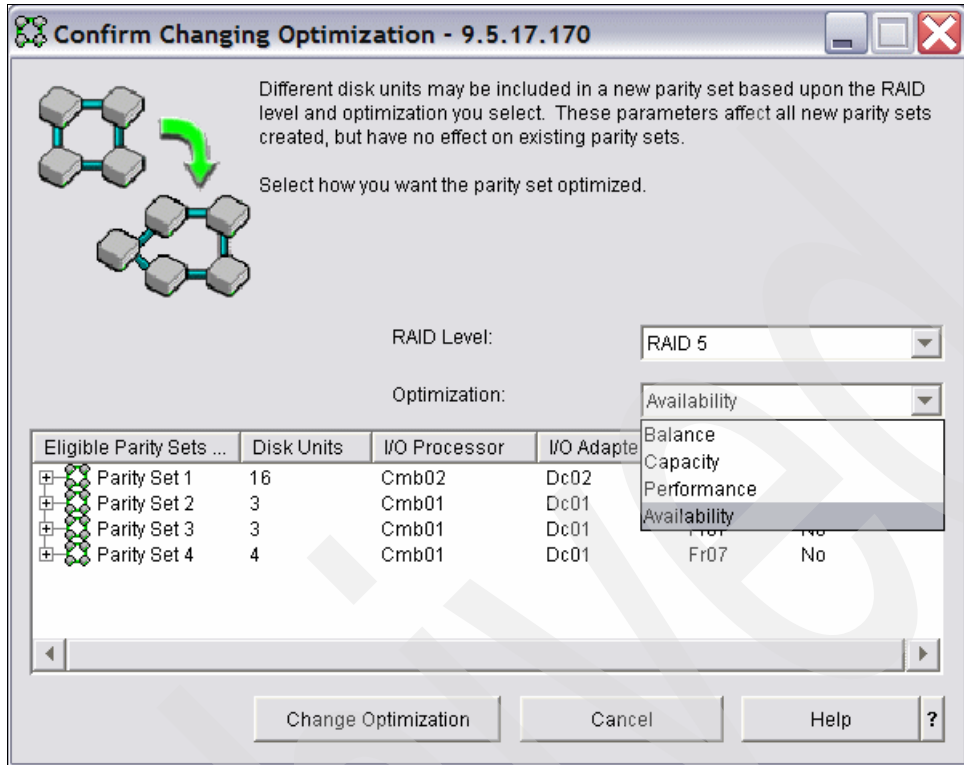

Figure 3-2 Selecting optimization
- In the page that is displayed (Figure 3-2), use the Optimization drop-down box to select the required optimization.